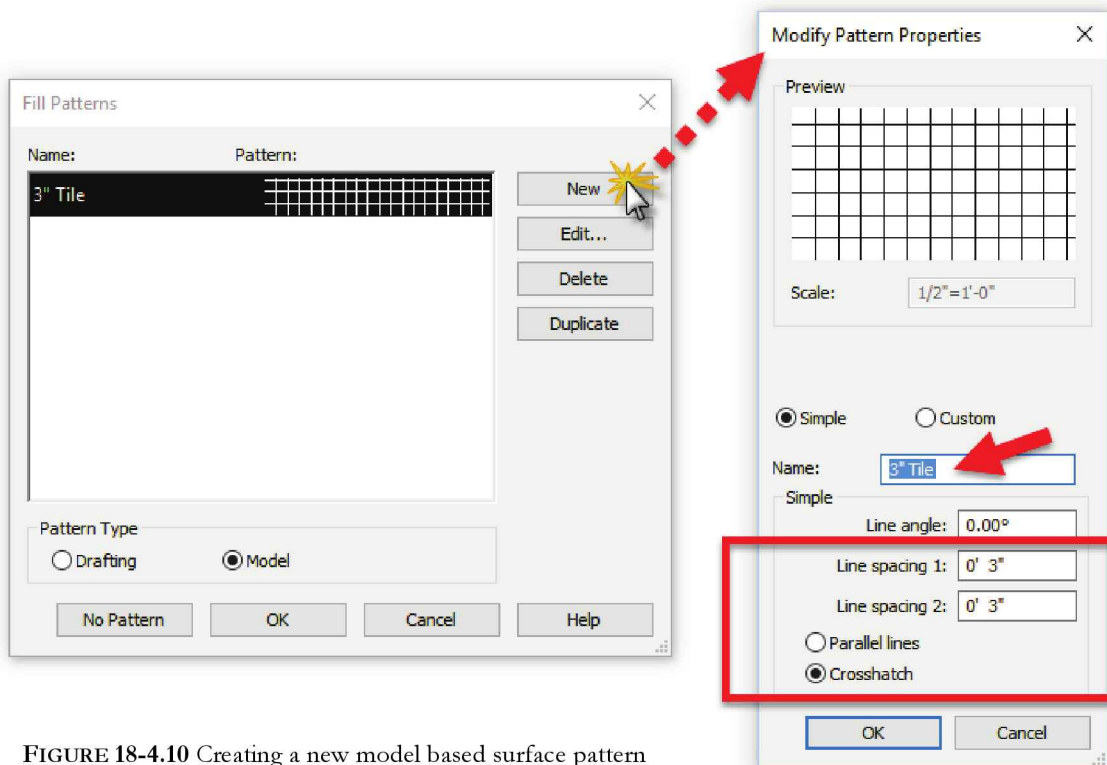

FIGURE 18-4.10 Creating a new model based surface pattern
20. Select **Model** for *Pattern Type* and then follow the steps shown in Figure 18-4.10 to create a new “Model” based *Fill Pattern* named **3" Tile**.